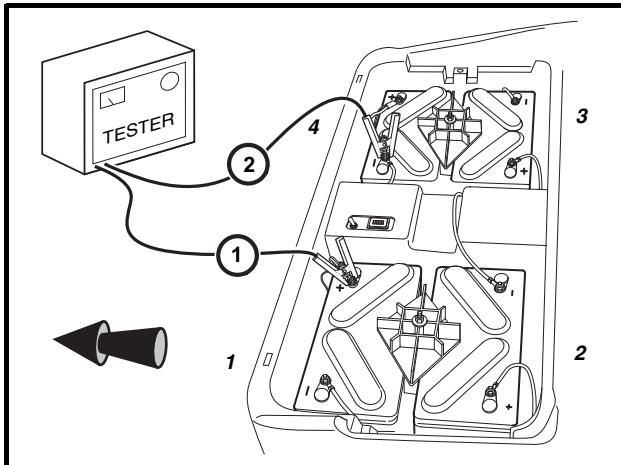
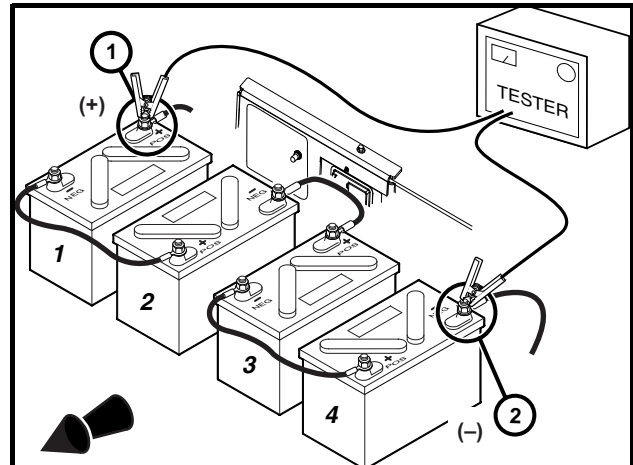
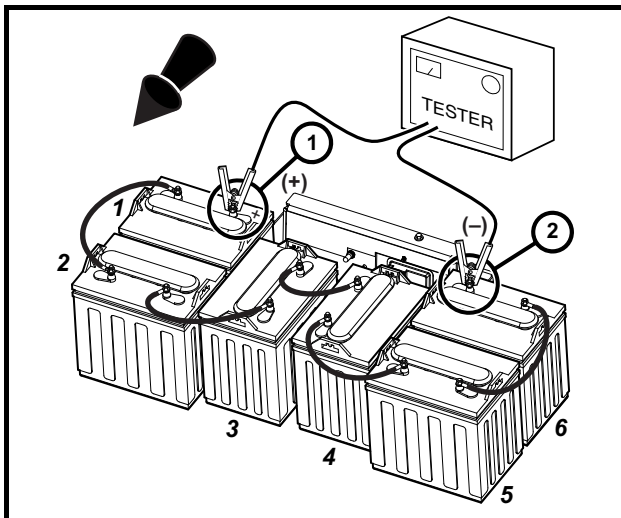

Figure 10-5 Battery Discharge Test – Precedent Style A Battery Configuration
Figure 10-6 Battery Discharge Test – Precedent Style B Battery Configuration
Figure 10-7 Battery Discharge Test – Precedent Style C Battery Configuration
2. Connect the tester leads to the positive (+) post of battery no. 1 and negative (-) post of battery no. 4 last (Style A and B 4 x 12-Volt Precedent) (**Figure 10-5, Page 10-15**) and (**Figure 10-6, Page 10-15**) or no. 6 last (Style C 6 x 8-Volt Precedent) (**Figure 10-7, Page 10-15**).